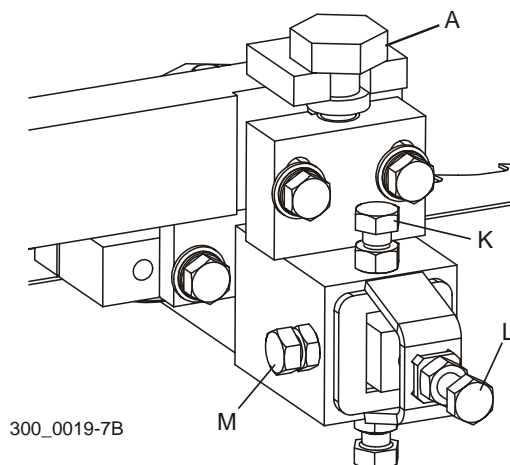

FIG. 7-17
See Figure 7-17. To adjust, loosen one bolt (K) and bolt (M). Slide the blade guide assembly in or out as necessary. Loosen the jam nut on bolt (L) and adjust the bolt until it contacts the end of the blade guide shaft. Retighten the jam nut.